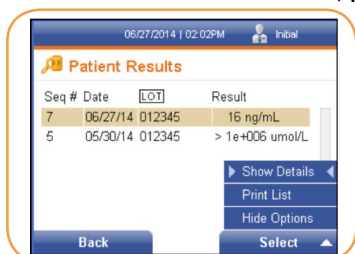

FIGURE 60
- From the *Patient Results* screen, press the right soft key to display the Options menu (Figure 60).